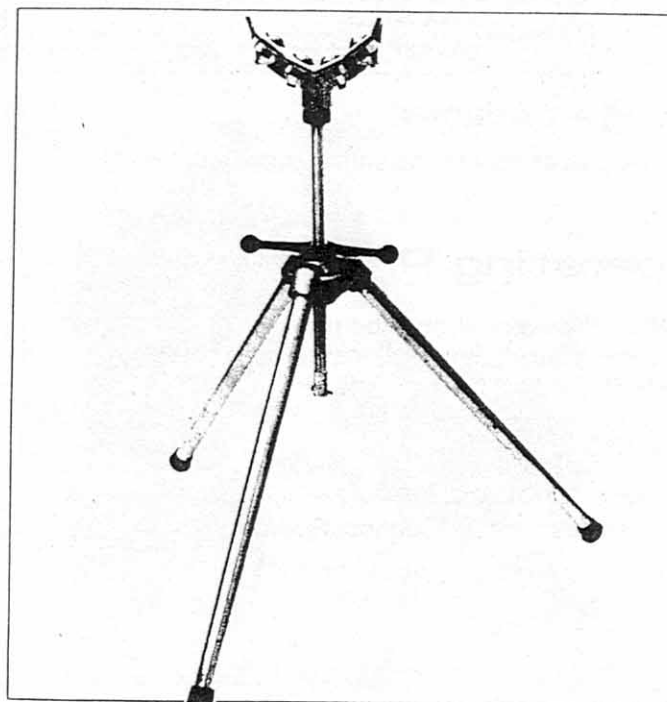

Figure 8 — Pipe Support Stand
1. Pipe Support Stand ..... No. 13894 (Fig. 8)